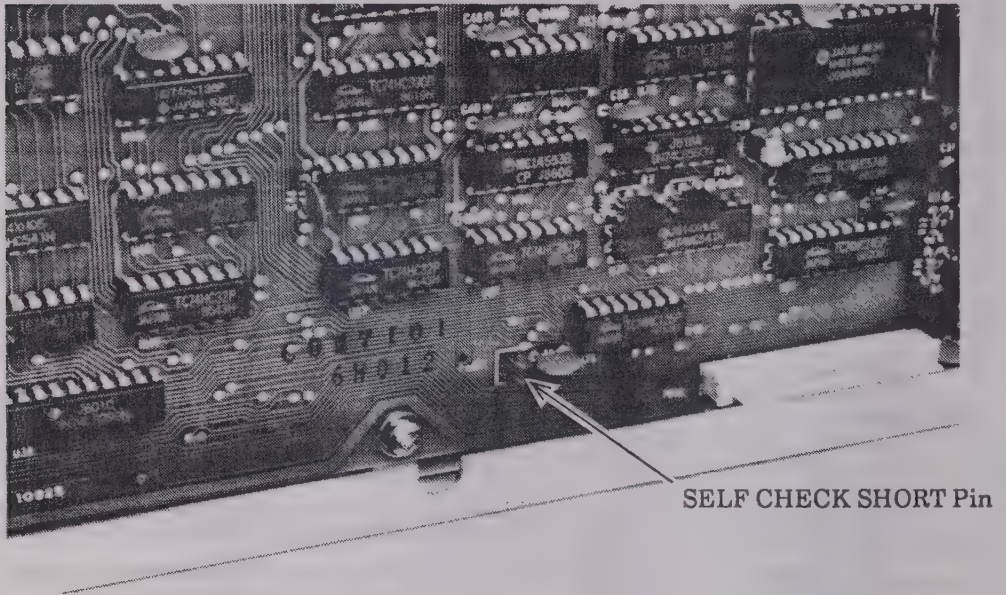

Fig. 4-4 Position of SELF CHECK SHORT PIN
- (1) SHORT the SELF CHECK SHORT PIN on board A8 (MAIN CPU board) shown in Fig. 4-4.